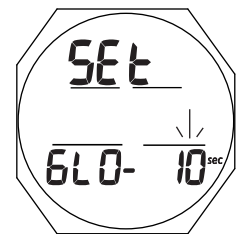

Fig. 53 - SET BACKLIGHT DURATION
**Set Backlight Duration (Glo)**, information includes (Fig. 53):